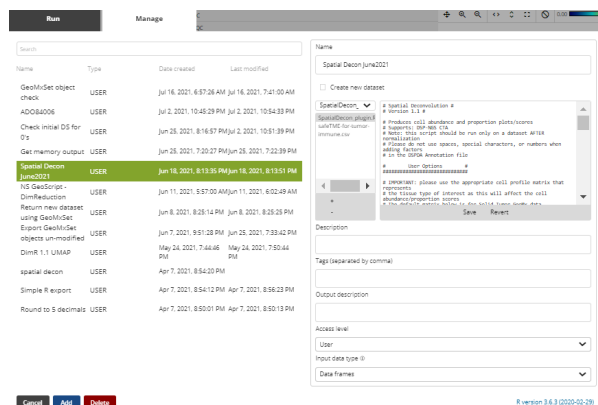

Figure 45: Adding a custom script
3. On the **Manage** tab, click the **Add** button (see Figure 45).